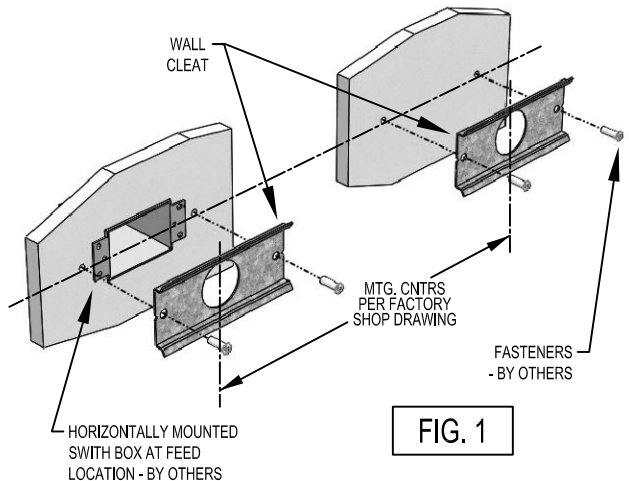

FIG. 1
USING WALL CLEAT AS A TEMPLATE, CENTER OVER HORIZONTALLY MOUNTED SWITCH BOX AND MARK (2) MOUNTING HOLES. USE LEVEL TO PLUMB WALL CLEAT. (FIG 1) DRILL HOLES APPROPRIATE FOR MOUNTING SURFACE AND FASTENERS TO BE USED. SECURELY ATTACH CLEAT TO WALL.